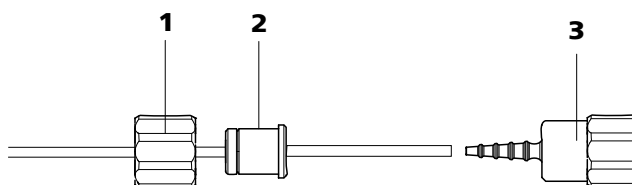

Figure 26 Install pump tubing connection without filter
- **Case B:** a 6.2744.160 pump tubing connection **without filter** (see Figure 26, page 48).